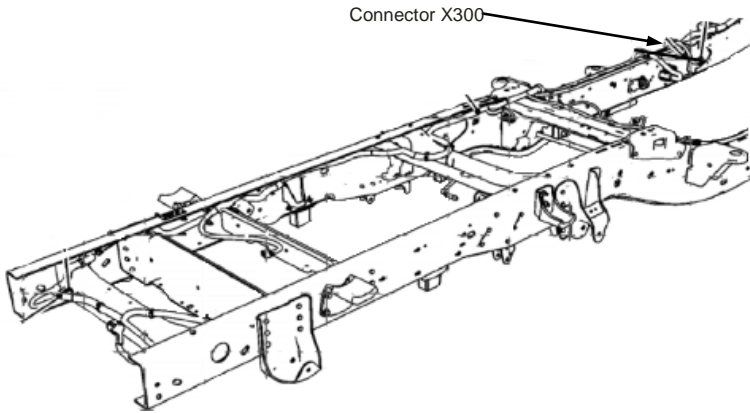

Figure 2.1
- ☐ Locate the wiring harness on the inside of the driver side frame rail crossing from the driver side frame rail to the transmission above the driver side PTO cover. (Figure 2.1) This harness is close to connector X300.